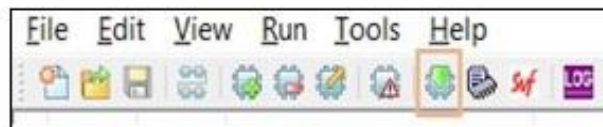

Figure 10 Programmer Toolbar
9. Check the Output console for the status of the programming. You should see **Operation: Successful**, as shown in Figure 10.